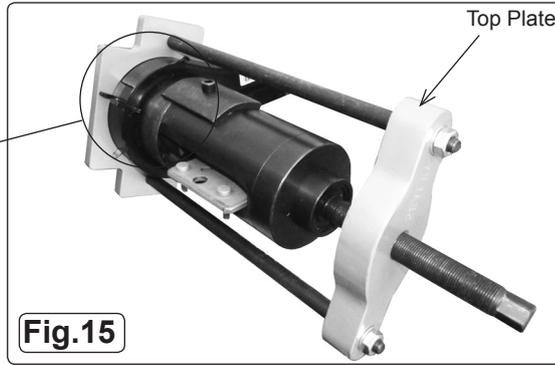
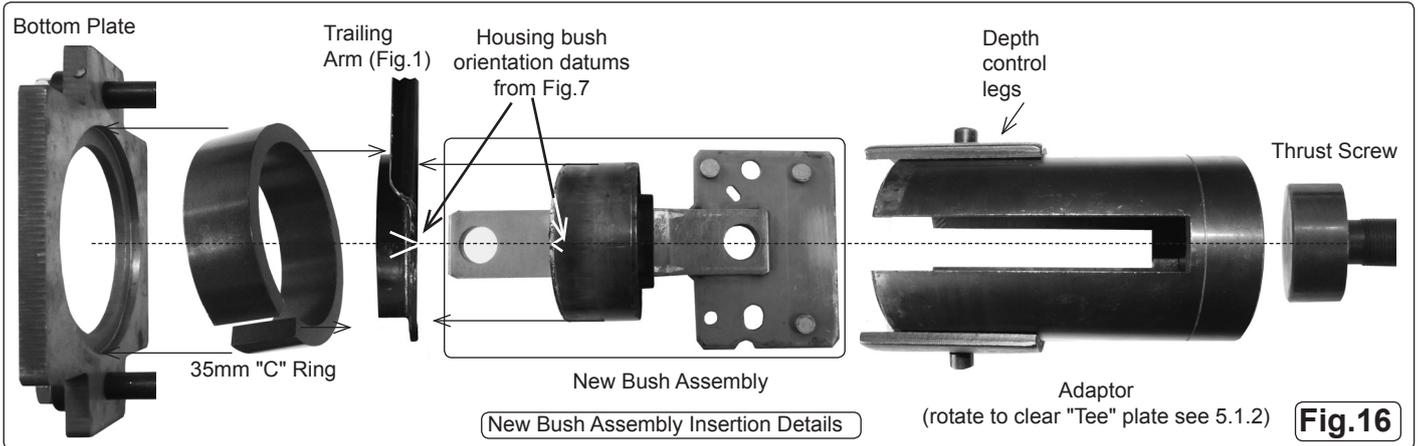

Fig.15
Fig.16
- 6.1.4 Place the 35mm 'C' ring on to the trailing arm (Fig.16), rotate the ring to clear the handbrake bracket. The four integral permanent magnets will hold the ring in place.
- 6.1.5 Two people are now recommended, with one placing the adaptor and bush in (Fig.14) over the housing bore. See the orientation datums for correct alignment (Fig.7). The second person can offer the press frame over the entire group of items shown in (Fig.16) ensuring the bottom plate locates over the "C" ring. The second person can now wind in the thrust screw ensuring concentricity and squareness of both the press and the adaptor. With a 17mm socket increase the torque and observe the bush sleeve progress through to correct depth insertion. Excessive torque, above 180NM, is not envisaged, but if this occurs, stop and check alignments. Observe closely the depth control legs, when they touch the trailing arm face resistance will increase abruptly, the bush is now fully inserted, see (Fig.15) telescopic view. **DO NOT** attempt to tighten any further.